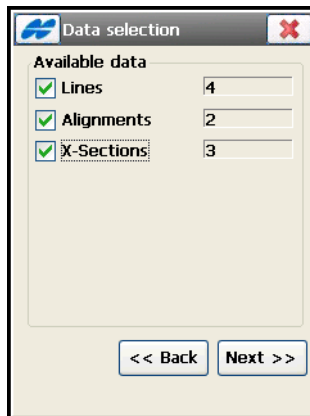

Figure 4-69. Data Selection for MX GENIO
**On the Data Selection** screen (Figure 4-69), select a specific data group in the job available to export. For the MX GENIO, Lines, Alignments, and X-sections are available for selection.